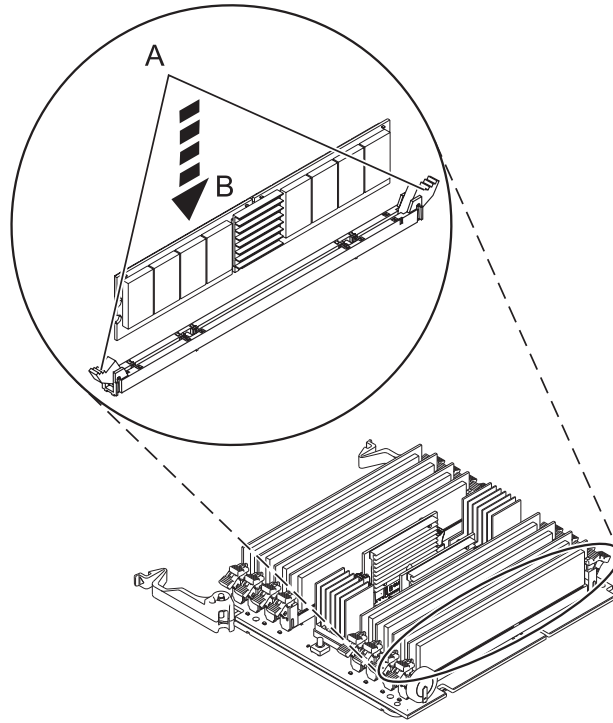

Figure 9. Replacing a memory module
12. Ensure that the connector locking tabs (A) are pushed open into the unlocked position, as shown in Figure 9 on page 14, before installing a new memory module.
13. Carefully grasp the memory module along the edge (B) and align it with the connector.